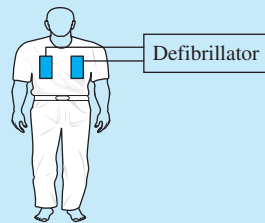
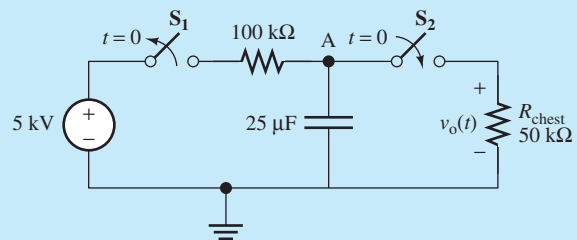

FIGURE 5.22 Model for Example 5.7.
FIGURE 5.23 Circuit model for Example 5.7.
A defibrillator contains a large capacitor that is charged to a high voltage. This voltage is discharged when the pads are pressed on the patient’s chest. The scenario shown in Figure 5.22 can be modeled as that shown in Figure 5.23. Note that before $t = 0$, S1 and S2 have been closed and opened, respectively, for a long time period. Usually, defibrillators have an inductor in series with the patient, but it has been omitted to simplify this problem.
- Applying KCL to the parallel capacitor–resistor (i.e., Node A in Figure 5.23) for $t > 0$: